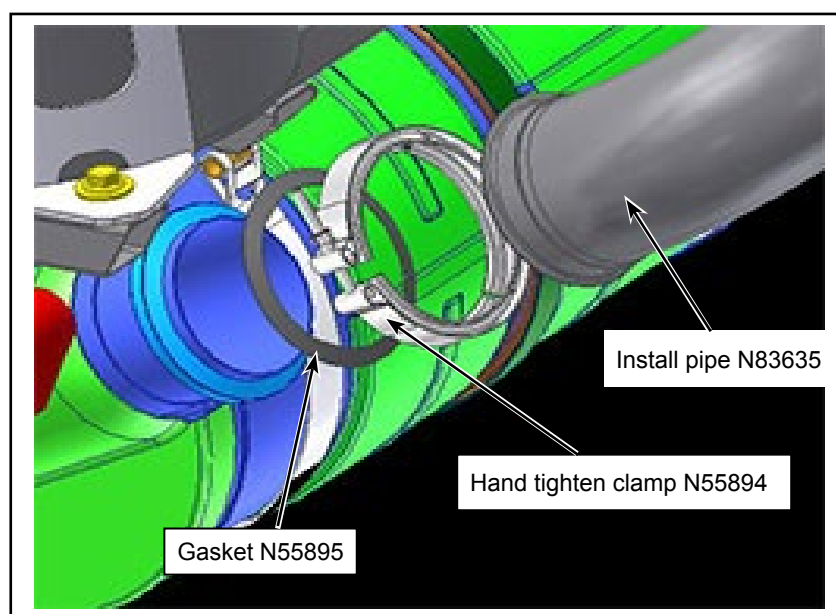

Figure 3 - Fastening of the Exhaust Pipe to the Exhaust DPF
- 1.9. Affix exhaust pipe N83635 to the DPF exhaust with N55895 exhaust gasket and N55894 clamp. Hand tighten the clamp. See Figure 3. Tightening will be performed after all new pipes are installed.